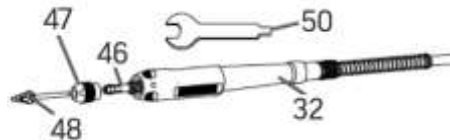

Fig. 5
3. Loosen the collet nut (#47) with the wrench (#50) (Fig. 5).
4. Insert the mounted stone bit (#48) through the collet nut into the collet (#46) and then tighten it with the wrench (Fig. 5).